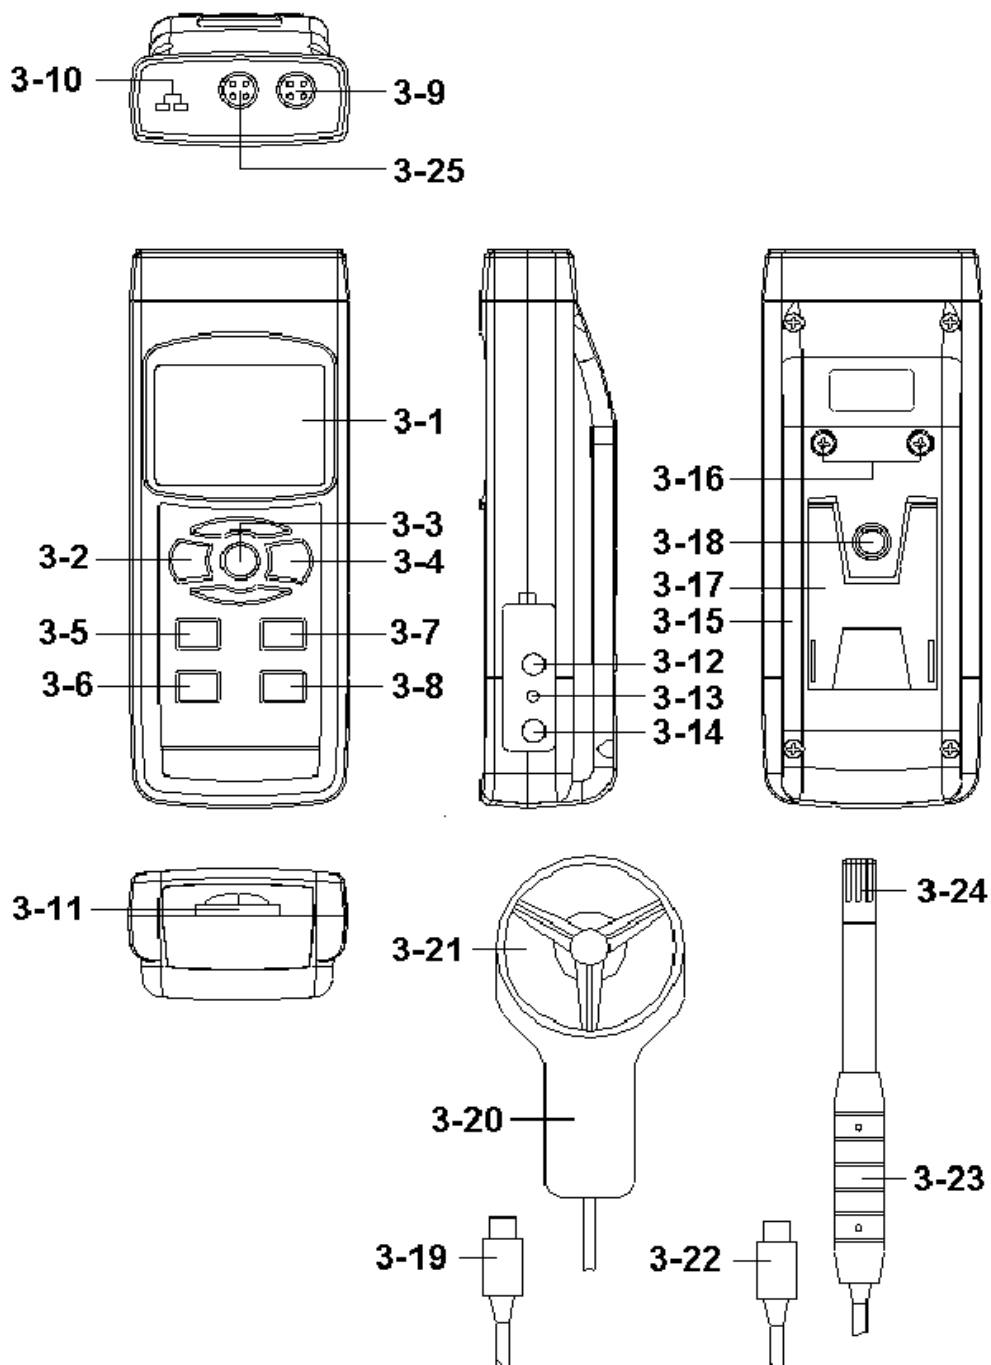

Fig. 1
(3-2, Fig. 1) > 1.5 seconds continuously.
Pressing the " Function Button " (3-7, Fig. 1)
just release the " Function Button " (3-7, Fig. 1), the
- Plug the " Probe Plug " (3-19, Fig. 1) into the " Probe Input Socket " (3-9, Fig. 1).
- Hold the " Probe Handle " (3-20, Fig. 1) by hand and let the " Probe Head " (3-21, Fig. 1) face against the measuring air flow source, then the Display (3-1, Fig. 1) will show air velocity directly. At the same time, the lower Display will show the air temperature value.
- a. Plug the " Probe Plug " (3-22, Fig. 1) into the " Probe Input Socket " (3-25, Fig. 1).
- b. Plug the Thermocouple Temp. Probe (Type K Temp. probe or Type J Temp. probe, optional) into " Type K/J Probe Input Socket " (3-10, Fig. 1)
During the measurement, press the " Hold Button " (3-3, Fig. 1) once will hold the measured value & the LCD will display a " HOLD " symbol.